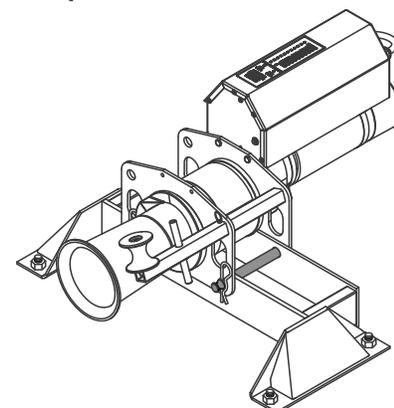

Figure 26: Puller Orientation on Floor Mount
10. Place the puller on in the floor mount cradle, so the capstan is more centered between the floor mount base, and pass mounting pins through the puller mounting holes. Secure with hitch clip. (Fig. 26)